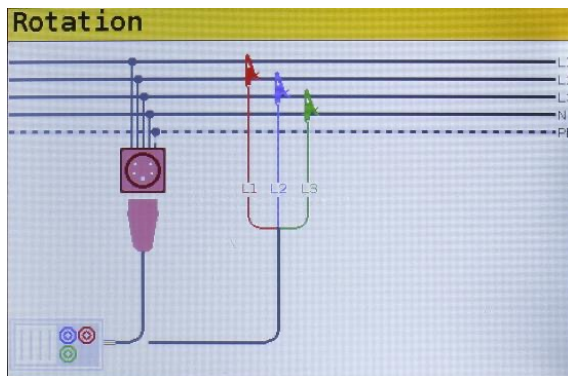

Figure 5.41: Connection of universal test cable and optional three phase cable
Step 2 Connect test cable to the ET6000 series instrument and follow the connection diagram shown in figure 5.41 to test phase sequence.